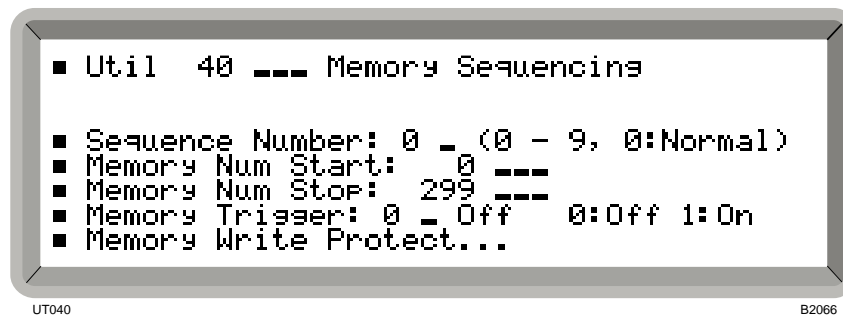

Fig. 4-26 Memory sequencing menu
- (1) Select *Util 40: Memory Sequencing* to display the menu shown in Fig. 4-26.